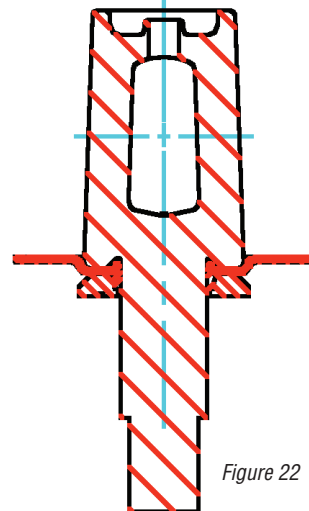

Figure 22
9. The entire assembly is turned over and the Grafoil gasket (Part 18) placed on the metal diaphragm (Figure 22). A small amount of rubber cement is placed on the Grafoil in several places to cause it to adhere to the metal diaphragm.